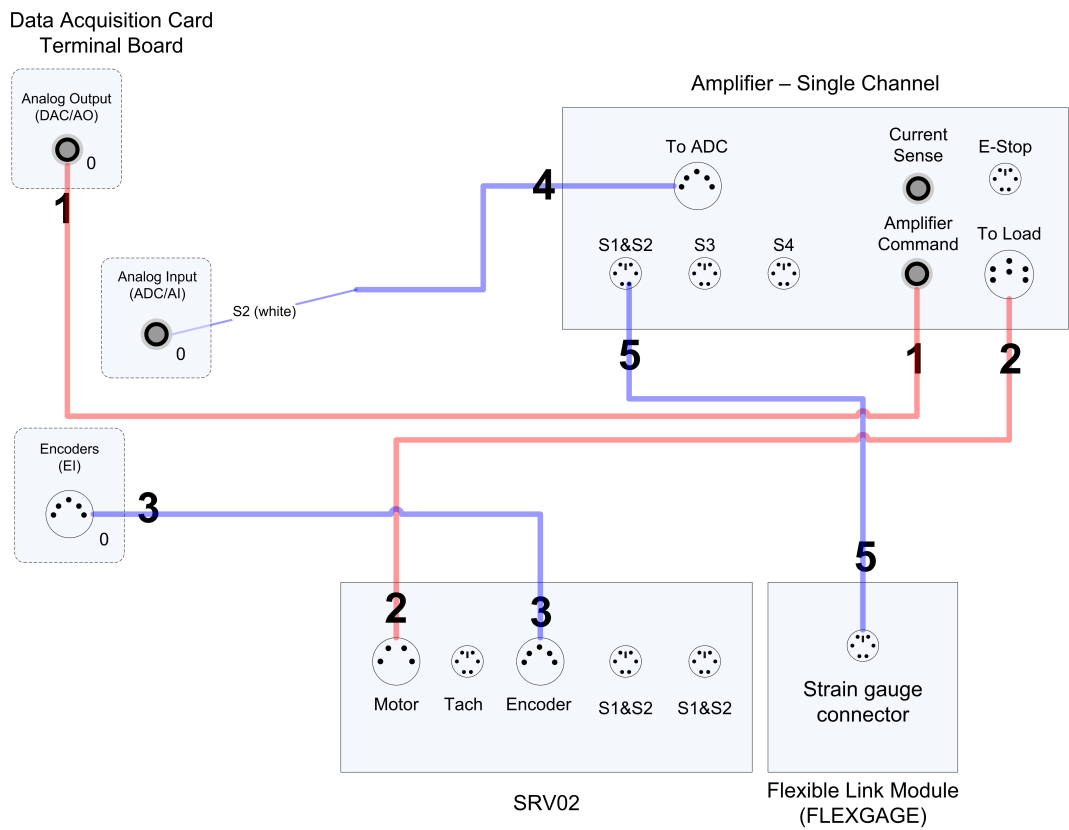

Figure 4.2: SRV02 Flexible Link Typical Wiring Diagram
This section describes the typical connections used to connect the flexible link plant to a data-acquisition board and a power amplifier. The connections are summarized in Table 4.2 and illustrated in Figure 4.2. The wiring procedure details are given below. It is assumed that the data acquisition board has already been installed and tested.
1. Connect one end of the 2xRCA to 2xRCA cable from the *Analog Output Channel #0* on the terminal board to the *Amplifier Command* connector on the amplifier, ie. Use both white or both red RCA connector. This connection carries the attenuated motor voltage control signal, V_m/K_a where K_a is the amplifier gain. This is shown by connection #1 in Figure 4.2.
2. Connect the 4-PIN-stereo-DIN to 6-pin-stereo-DIN cable from the *To Load* connector on the amplifier to the *Motor* connector on the SRV02. This connection carries the amplified voltage that is applied to the SRV02 motor. This is shown by connection #2 in Figure 4.2.
3. Connect the 5-pin-stereo-DIN to 5-pin-stereo-DIN cable from the *Encoder* connector on the SRV02 panel to *Encoder Input #0* on the DAQ device. This is connection #3 in Figure 4.2. It carries the load shaft angle measurement.
4. Connect the *To ADC* socket on the amplifier to *Analog Inputs #0* on the terminal board using the 5-pin-DIN to 4xRCA cable as illustrated by connection #4 in Figure 4.2. The strain gage signal will be routed through the white/S2 connector. Connect the white/S2 RCA cable to *Analog Input #0* on the data acquisition device.
5. Connect the strain gage connector on the FLEXGAGE module to the S1 & S2 connector on the SRV02 panel using the 6-pin-mini-DIN to 6-pin-mini-DIN cable. This connection carries a voltage proportional to the link deflection and is shown by connection #5 in Figure 4.2.